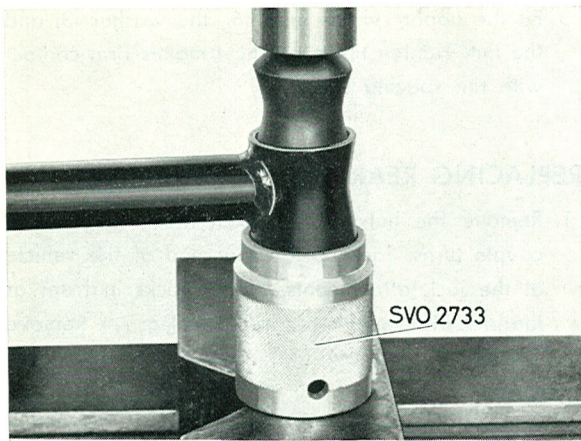

Fig. 7-10. Fitting the bush, support stay
4. Press out the front bush with tool SVO 2732. Coat the new bush with **oil** and press it in with the same tool according to Fig. 7-10. Make sure that the plane sides of the bush are at right angles to the support arm shaft (Fig. 7-10).
The bushes of the support stay are pressed out with tool SVO 2734 and counterhold SVO 2733. They are suitably pressed in with a drift press directly on the bush and with tool SVO 2733 as a counterhold (see Fig. 7-10). Before pressing in the rubber bush, coat it with oil so that it slides easily in position and is not damaged.